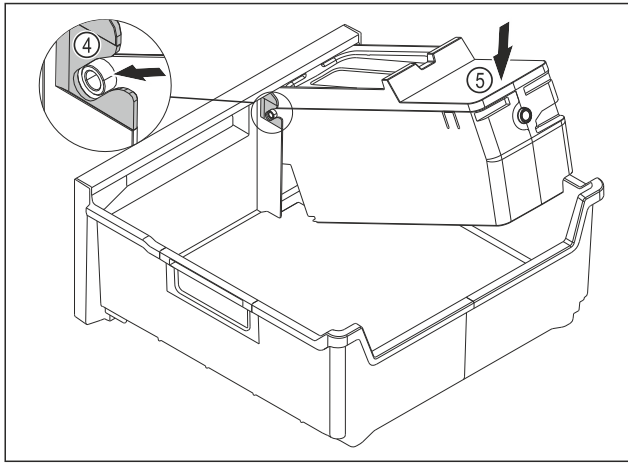

Fig. 149
- ▶ Installing the EasyTwist-Ice body: Push the axes for the EasyTwist-Ice body into the guides Fig. 149 (4).
- ▶ Press the EasyTwist-Ice body Fig. 149 (5) down at the back.